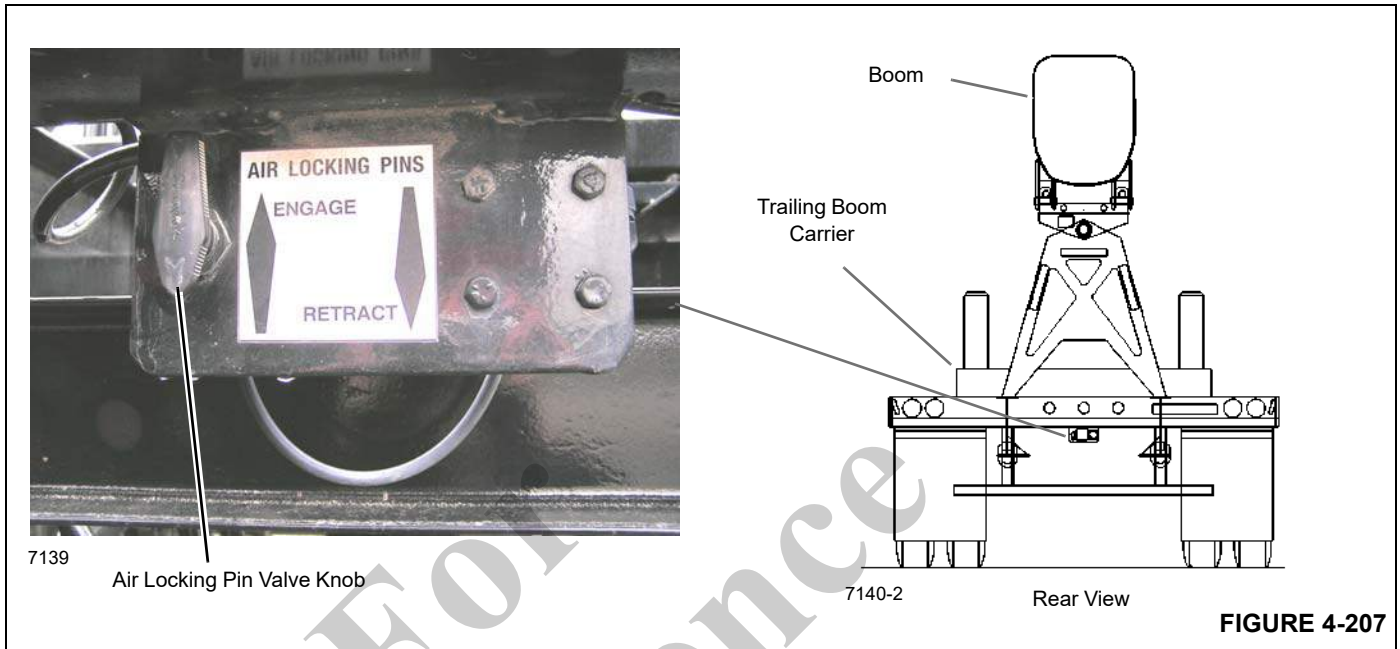

FIGURE 4-207
5. Make sure that the Air Locking Pin Valve Knob at the rear of the trailing boom carrier is turned to the RETRACT position. Refer to (Figure 4-207).